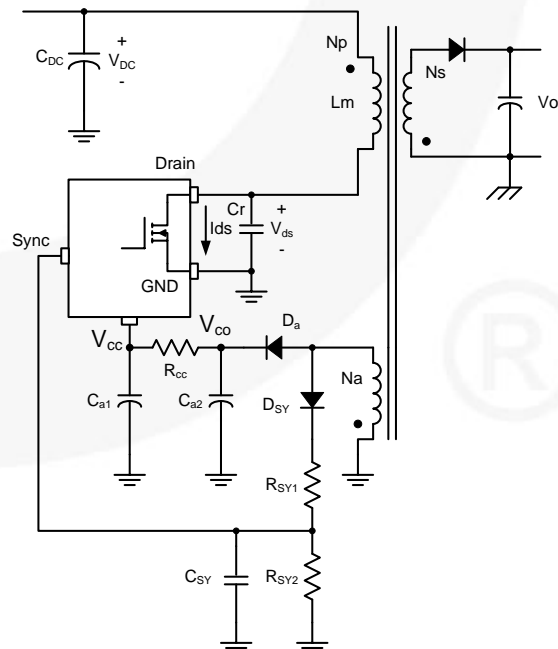
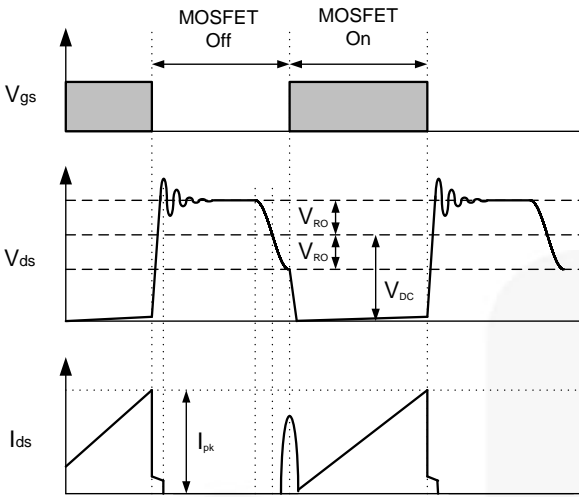
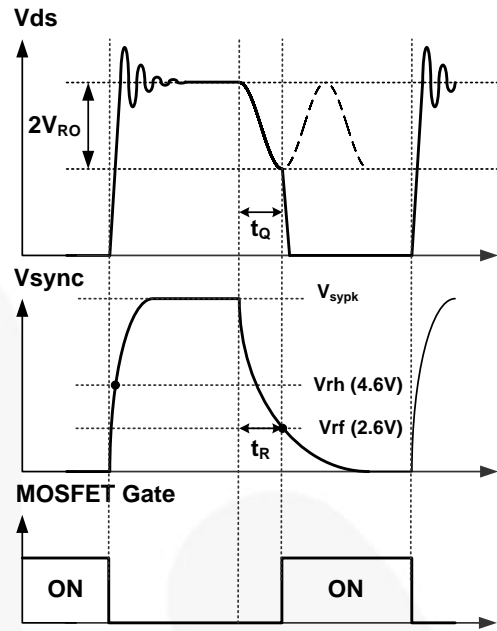

Figure 27. Synchronization Circuit
Figure 28. Quasi-Resonant Operation Waveforms
Figure 29. Normal QR Operation Waveforms
2. Synchronization: The FSCQ series employs a quasi-resonant switching technique to minimize the switching noise and loss. In this technique, a capacitor (C_r) is added between the MOSFET drain and the source, as shown in Figure 27. The basic waveforms of the quasi-resonant converter are shown in Figure 28. The external capacitor lowers the rising slope of the drain voltage to reduce the EMI caused when the MOSFET turns off. To minimize the MOSFET's switching loss, the MOSFET should be turned on when the drain voltage reaches its minimum value, as shown in Figure 28.
The minimum drain voltage is indirectly detected by monitoring the V_{CC} winding voltage, as shown in Figure 27 and Figure 29. Choose voltage dividers, R_{SY1} and R_{SY2} , so that the peak voltage of the sync signal (V_{syPk}) is lower than the OVP voltage (12 V) to avoid triggering OVP in normal operation. It is typical to set V_{syPk} to be lower than OVP voltage by 3–4 V. To detect the optimum time to turn on MOSFET, the sync capacitor (C_{SY}) should be determined so that t_R is the same with t_Q , as shown in Figure 29. The t_R and t_Q are given as: